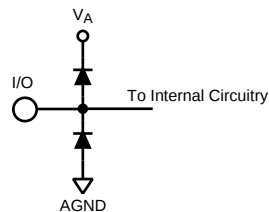

Figure 2.
- (1) The inputs are protected as shown below. Input voltage magnitudes above V_A or below GND will not damage this device, provided current is limited per Note 4 of the Absolute Maximum Ratings Table. However, errors in the A/D conversion can occur if the input goes above 2.6V or below GND as described in the Operating Ratings section. See Figure 2.
- (2) With a full scale differential input of $2V_{P-P}$, the 12-bit LSB is $488\text{ }\mu\text{V}$.
- (3) Typical figures are at $T_A = 25^\circ\text{C}$ and represent most likely parametric norms at the time of product characterization. The typical specifications are not ensured.
- (4) This parameter is specified in units of dBFS - indicating the value that would be attained with a full-scale input signal.
- (2) With a full scale differential input of $2V_{P-P}$, the 12-bit LSB is 488 μV .
- (2) With a full scale differential input of $2V_{P,P}$, the 12-bit LSB is $488\text{ }\mu\text{V}$.
- (4) This parameter is specified by design and/or characterization and is not tested in production.